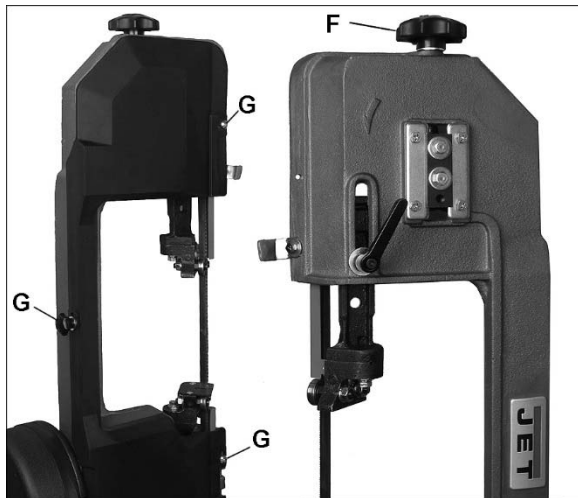

Figure 15
2. Open blade cover by removing knob and 2 screws (G, Figure 15). Observe position of blade on wheel. If blade is not adjacent to wheel flange, adjust blade tracking according to sect. 7.7, *Blade tracking*.
4. Push on blade to test tension. Finger pressure should cause approximately 0.004" deflection. Turn blade tension knob (F, Figure 15) until proper tension is achieved. Reposition guides for cutting material.
5. Release tension on blade by turning tensioning knob (F, Figure 15). Remove blade.